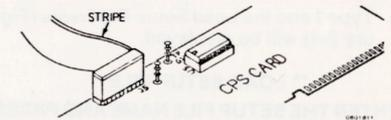

Figure 2-1 Parallel Cable Hookup
1. Connect the MCI 01-00264-01 cable between the CPS Card J5 connector and Centronics™ printer as shown in Figure 2-1.
- Connect the MCI 01-00264-01 cable between the CPS Card J5 connector and the printer as shown in Figure 2-1.